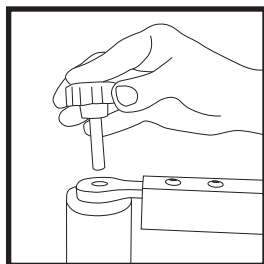

Fig. 4
5. Screw the bar to the leg with the knob (Fig. 4).